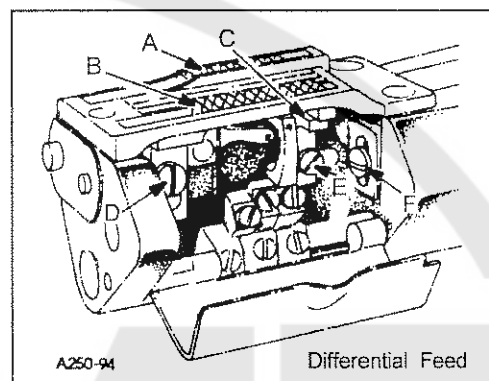

FIG. 11A
Before assembling the main and differential feed dogs, set the feed bar eccentric pin (A, Fig. 10A) located in the left side near center of cylinder, so that the slot in the head is in a horizontal position for the 35800DLU, DNU, and DZ style machines and turned counter clockwise to an approximate  $45^\circ$  for the 35800DWW style of machine. The pin can be used to slightly tilt both feed dogs if necessary. The feed bar pin is retained in position by set screw (B). Assemble differential feed dog (A, Fig. 11A), main feed dog (B) and throat plate. Both the main and differential feed dogs can be individually adjusted to height. Main feed dog (B) at its highest position, should be set to project above the throat plate, the depth of its teeth. If adjustment is necessary loosen screw (D) and move feed dog (B) up or down to attain correct setting. Feed dog support (C) should support front of feed dog.
If adjustment is necessary loosen screw (E, Fig. 11A) in feed dog support (C) and move as required. Retighten screw (E). The differential feed dog (A) may then be leveled with main feed dog (B). If adjustment is necessary loosen screw (F) and move feed dog up or down as required. Retighten screw (F).
**NOTE:** Should the main feed dog require repositioning due to contact with the throat plate in its forward or rearward travel, loosen set screw (C, Fig. 10A) in main feed bar driving link (D), rotate main feed bar eccentric driving stud (E) as required. Driving stud (E) has a thin hexagon head with cutouts on two of the flats allowing movement by tapping with a sharp pointed tool, when wrench 21388AZ is not available. Whenever the main feed bar eccentric driving stud position has been changed, recheck rear needle guard setting, adjustment may be required. Retighten set screw (C). Position main feed dog support (C, Fig. 11A) flush against bottom of main feed dog (B), tighten support screw (E) securely.